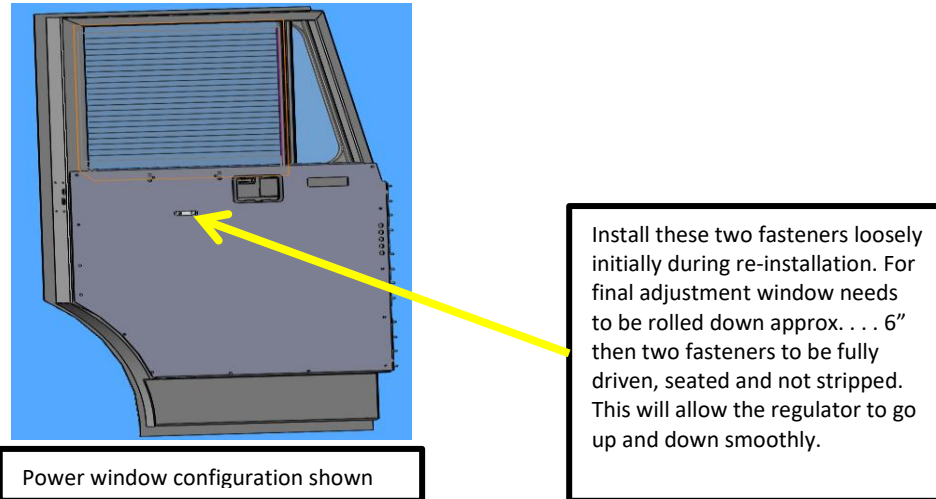

FIG. 22-1
- 24. For power window regulator alignment Refer to FIG 22.1.
25. New door seals will need to be applied to new door hinges. Refer to FIG. 22-1, FIG. 23-1, FIG. 23-2, FIG. 24-1 and FIG. 24-2.